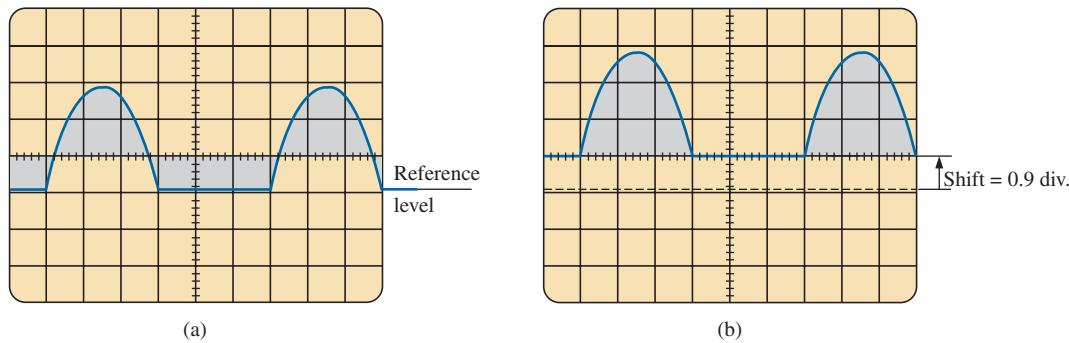

FIG. 13.58
2. Switch to AC (all dc components of the signal to which the probe is connected will be blocked from entering the oscilloscope—only the alternating, or changing, components are displayed). Note the location of some definitive point on the waveform, such as the bottom of the half-wave rectified waveform of Fig. 13.58(a); that is, note its position on the vertical scale. For the future, *whenever you use the AC option, keep in mind that the computer will distribute the waveform above and below the horizontal axis such that the average value is zero*; that is, the area above the axis will equal the area below.
3. Then switch to DC (to permit both the dc and the ac components of the waveform to enter the oscilloscope), and note the shift in the chosen level of part 2, as shown in Fig. 13.58(b). Eq. (13.29) can then be used to determine the dc or average value of the waveform. For the waveform in Fig. 13.58(b), the average value is about